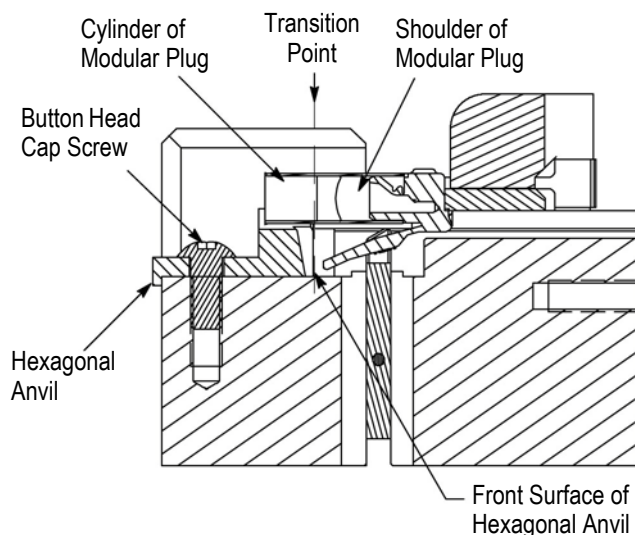

Figure 4
- b. Loosen the button head cap screw on the hexagonal anvil. See Figure 4.
When the anvil is positioned properly, the front surface of the anvil is in the same vertical plane as the transition point between the modular plug cylinder and shoulder. See Figure 4.